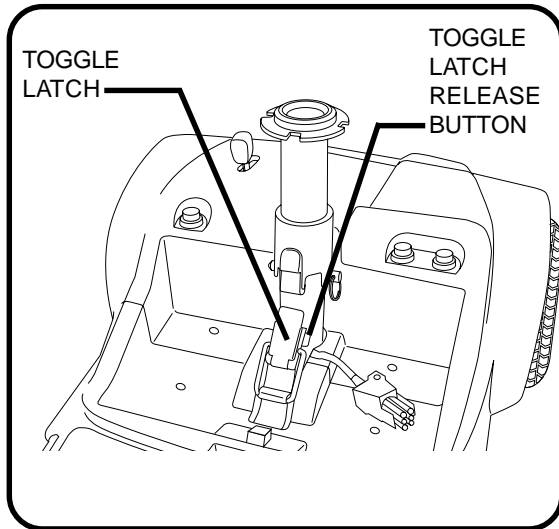

Figure 15. Toggle Latch (Latched)
1. Push in the toggle latch release button while pulling back on the toggle latch. **See figure 15.**
5. Secure the toggle latch. **See figure 15.**